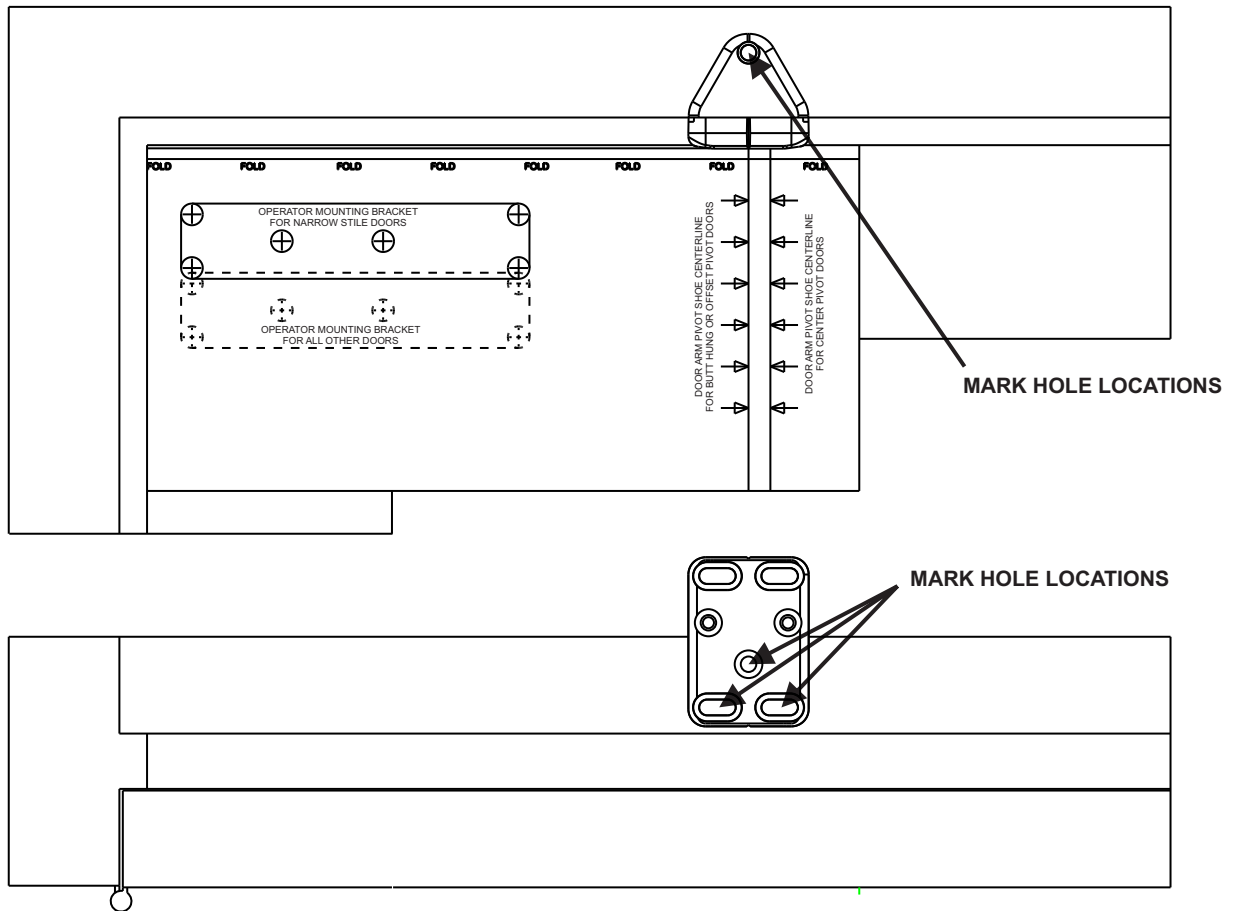

Figure 11
2. Refer to Figure 11 and, using a center punch, MARK the door arm pivot bracket hole locations.